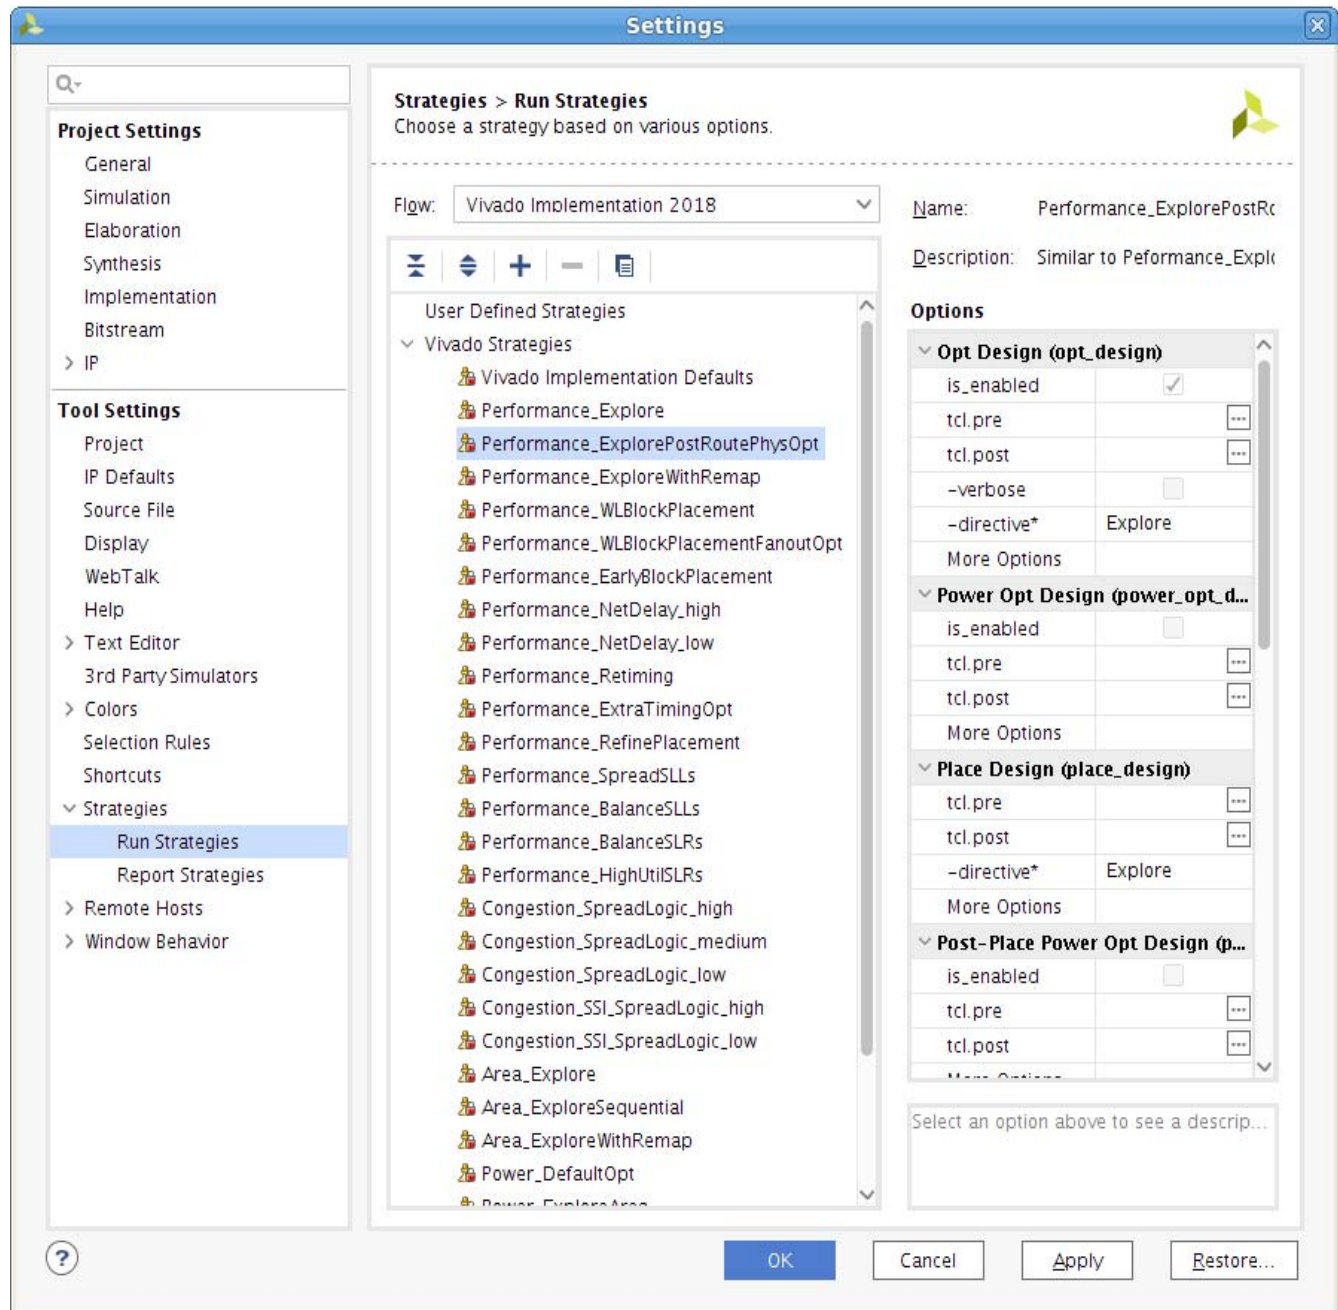

Figure 2-9: Default Implementation Strategies
3. Select **Run Strategies** to review, copy, or modify run strategies. The Run Strategies page (shown in Figure 2-9) contains a list of pre-defined run strategies for various tools and release versions.